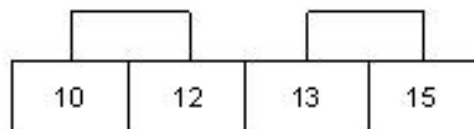

Figure 8 – Configuration 8
1.22 Perform a continuity check at the PAM side (top) of the terminal rail, to verify the following configuration (Figure 8):